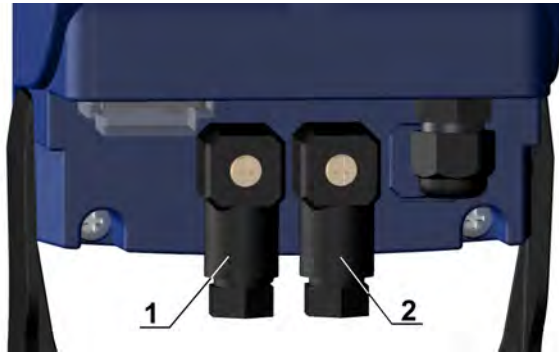

Fig. 13
NOTE: to have a fast priming we suggest to set the mode switch to "T" mode (see pos.1 fig. 14), rotate the potentiometer totally on the right side and to short-circuit the pins 3 and 4 of water meter input connector (see pos.2 fig. 13). For a short-circuit contact the pump will be activated for 60 sec. If 60 sec will be not enough to prime the pump please short-circuit contact again the pins of water meter input connector.